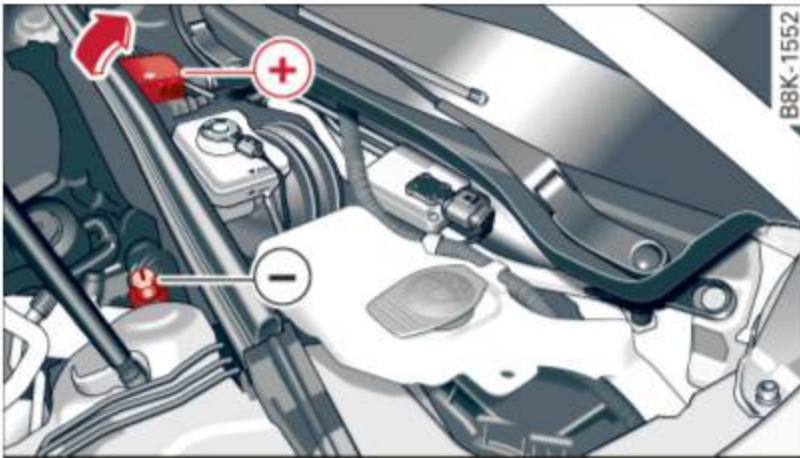

Fig. 211 Engine compartment: Connectors for jumper cables and charger
- ▶ Open the cover on the positive pole ⇒ fig. 211.